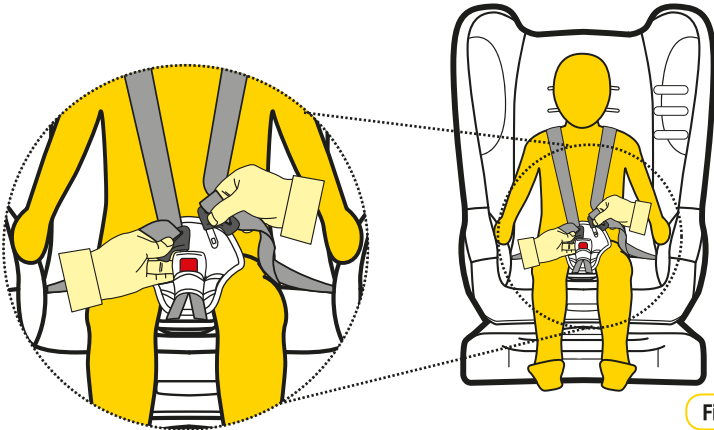

Figure 2
- Step 3:** Place child in car seat with legs either side of the buckle, place harness over the shoulders and hips. (refer Figure 2).